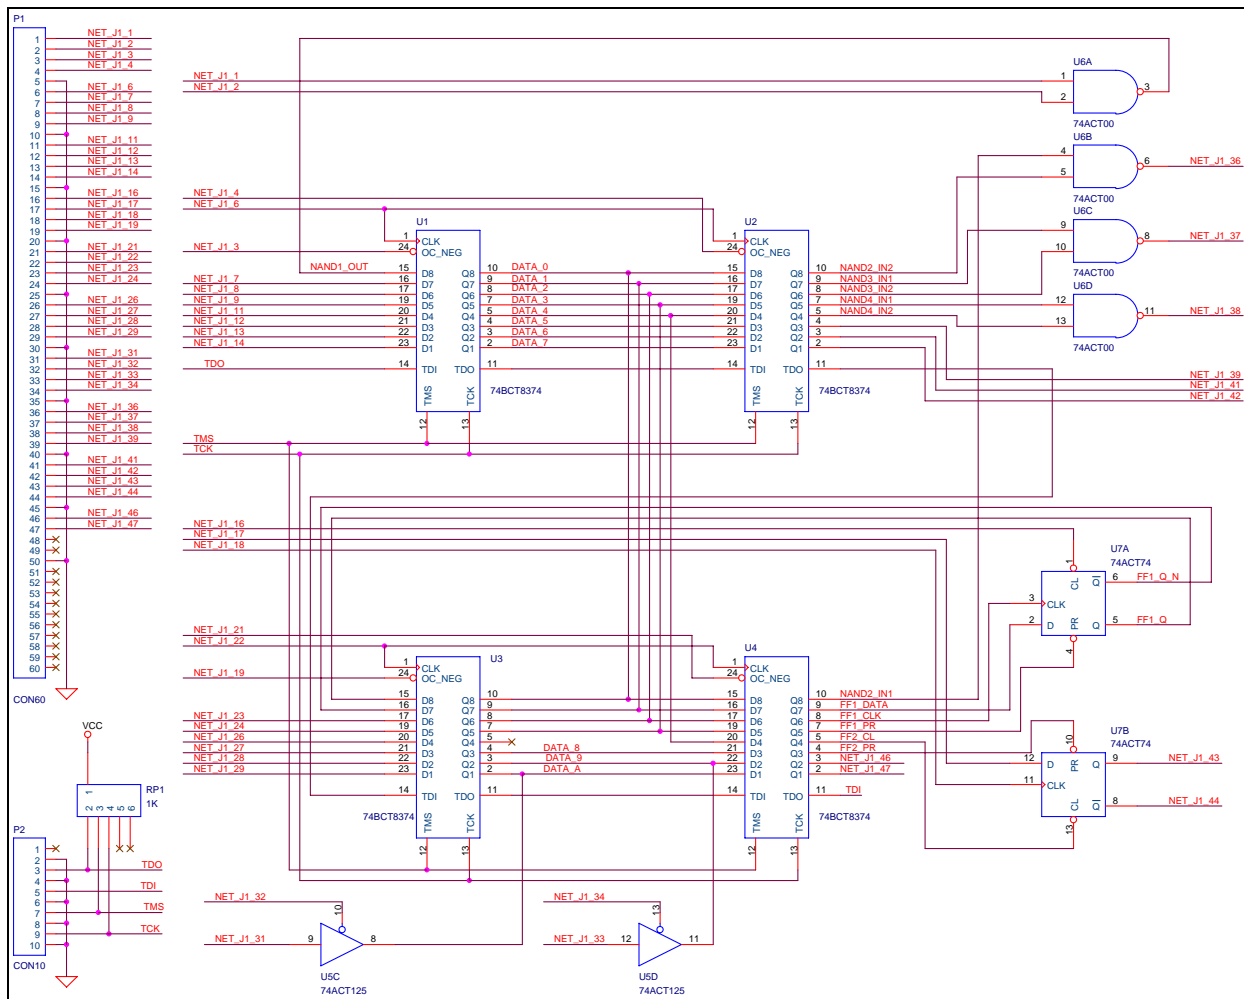

Figure 4-1. Schematic of an Example Unit Under Test
To assist in the application of the SCANIO™-280LV this chapter provides an example of using the SCANIO™-280LV to test the interconnects of an edge connector that is connected to boundary-scan compatible buffers and some non-boundary-scan logic. The example UUT is an actual board that is available through Corelis sales, ask for the JTAG Demo Board. Figure 4-1 shows a partial schematic for the example given in this chapter.
In the example shown in Figure 4-1 above only nets DATA_0-DATA_8 are fully testable. The outputs from buffers U2 and U4, the inputs to U1 and U3 which connect to either non-boundary-scan logic or the edge connector cannot be tested using boundary-scan techniques under normal circumstances since there is only one boundary-scan cell on each net. With the use of the SCANIO™-280LV the visibility of the boundary-scan chain can be expanded to include these nets.
6. **Cluster SDF file (*.sdf).** A text file that is one of two files used specifically for cluster testing. The SDF file, which conforms to the TSSI file format, specifies a list of nets which will be tested in the cluster. Cluster tests are used to test non-boundary-scan components such as U6 in example schematic in Figure 4-1. Please see your ScanPlus TPG user's manual for a more detailed description and example of cluster testing.